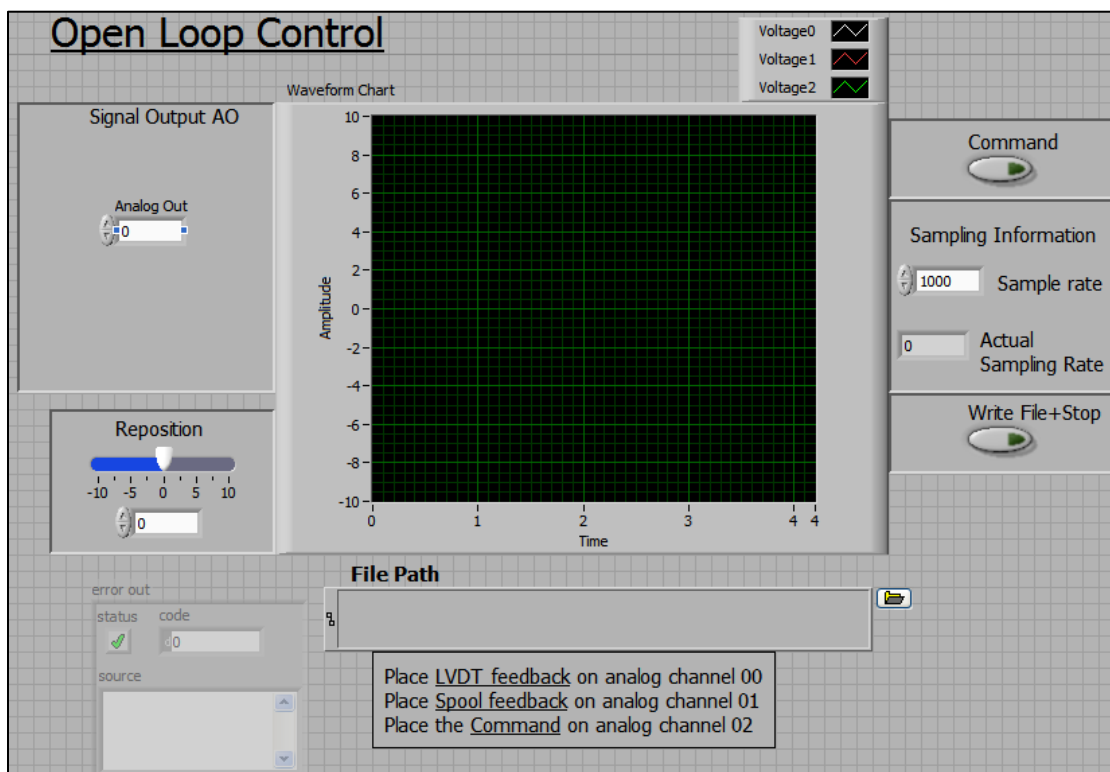

Fig. 1. The Front Panel (Graphical User Interface)
- The front panel of the LabVIEW *data acquisition* (open-loop control) program for a *step excitation* is in Fig. 1. The *Signal Output AO* box (upper left) specifies the *magnitude* of the *step voltage* command to be sent to the valve.